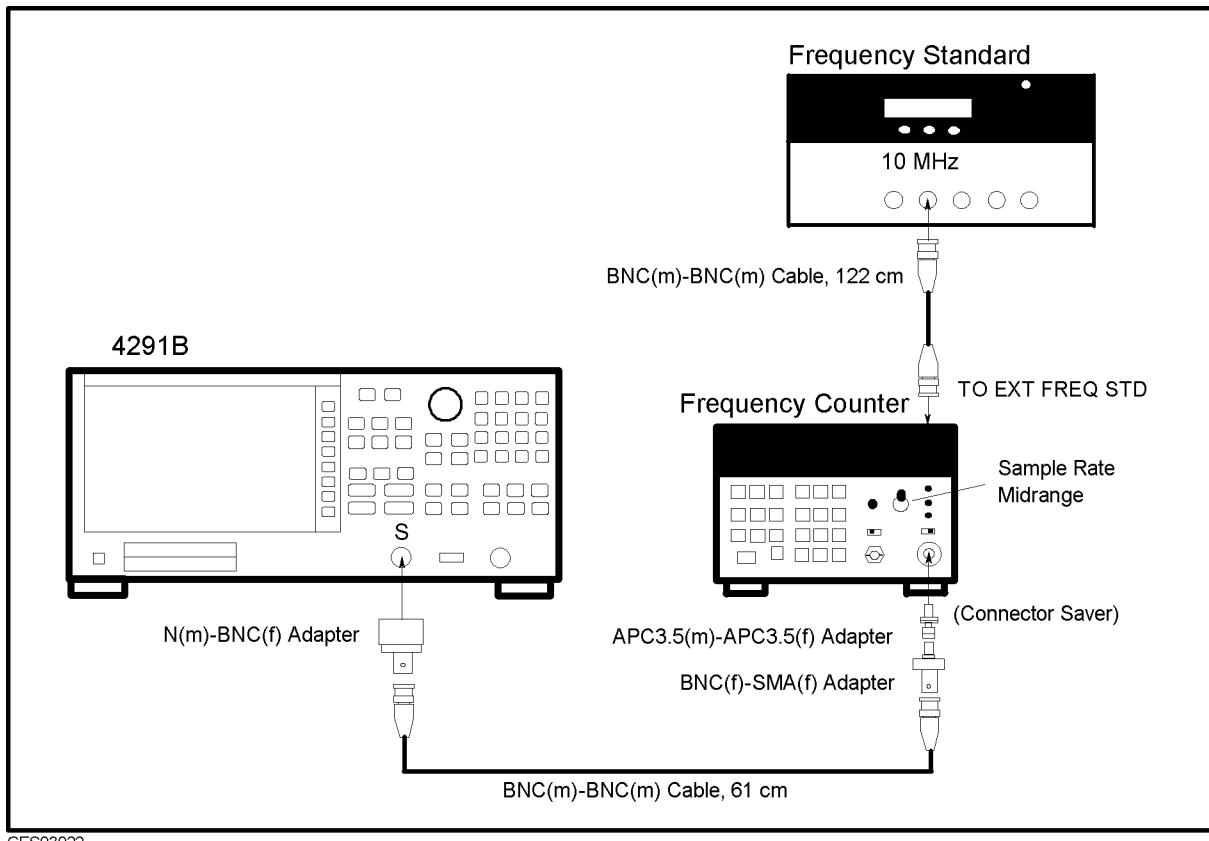

Figure 3-21. 10 MHz Reference Oscillator Frequency Adjustment Setup
4. Connect a BNC(m)-BNC(m) cable between the "EXT REF" input connector and the "REF OVEN" connector on the analyzer rear panel. Then connect the equipment as shown in Figure 3-21.